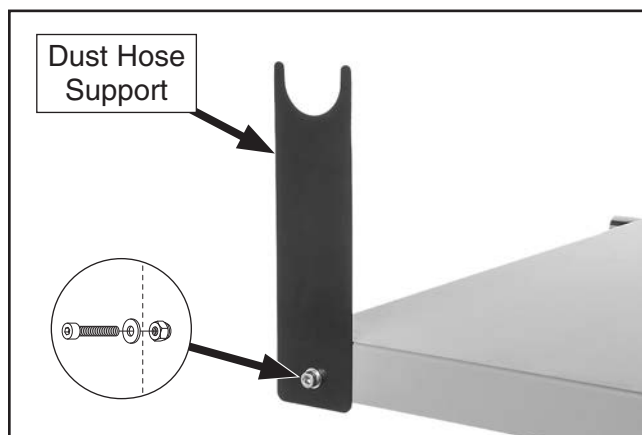

Figure 54. Dust hose support attached to rear of large extension table.
53. Attach dust hose support to large extension table with (1) M10-1.5 x 20 cap screw, (1) 10mm flat washer, and (1) M10-1.5 lock nut (see **Figure 54**).